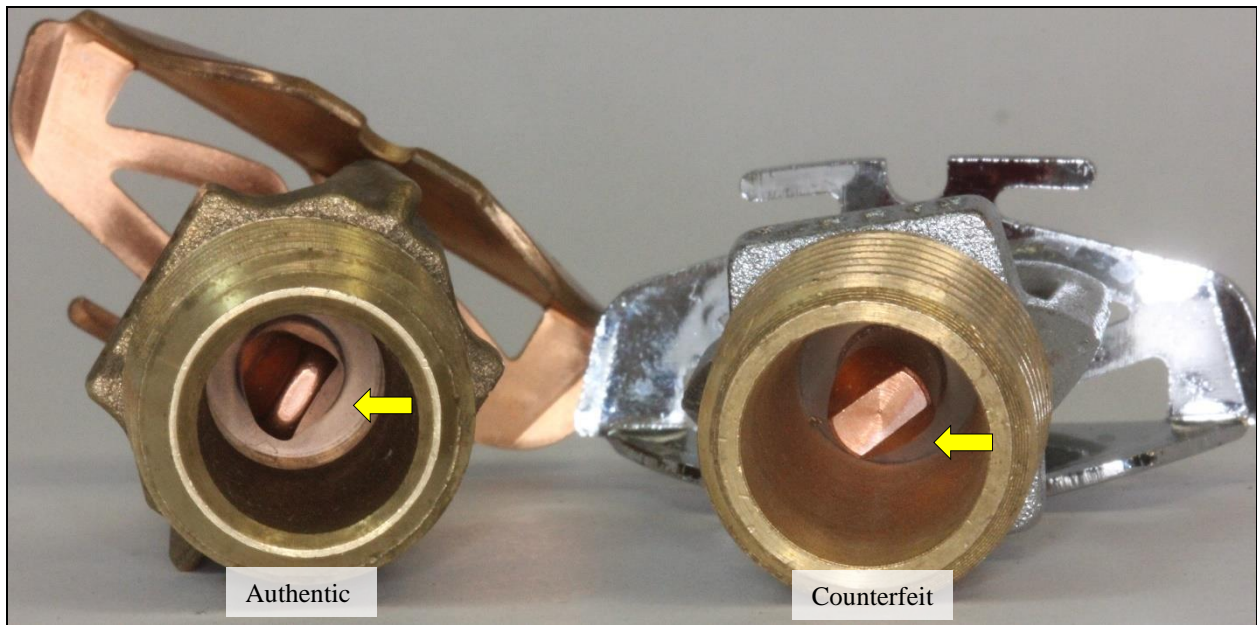

**Figure 1.** Photograph of a counterfeit TY3351 sprinkler (right) and an authentic Tyco TY3331 pendent sprinkler (left).
**+1 (1)781 255 4825**
**Figure 1** is a photograph of an authentic TY3331 sprinkler next to one of the counterfeit TY3351 sprinklers. Tyco also makes TY3351 sidewall sprinklers, and the only difference is the use of a 5 mm bulb instead of a 3 mm, but there was not one available for the photographs below. Chrome-plate TY3351 sprinklers are also FM Approved even though this example has no decorative finish. The markings on the wrench boss are similar between the two and include the name “TYCO” (on the opposite side to the one shown), the year of manufacture, and a mold cavity identification symbol. The shape of the frame arms of the counterfeit sprinkler are clearly different, and the deflector is attached parallel to the frame arms, while it is always perpendicular to the frame arms in authentic versions. The counterfeit also uses a visibly different compression screw, indicated by the arrows in the left photo, which is silver in color (even in chrome plated authentic sprinklers, the compression screw is plain brass) and has several more exposed threads.